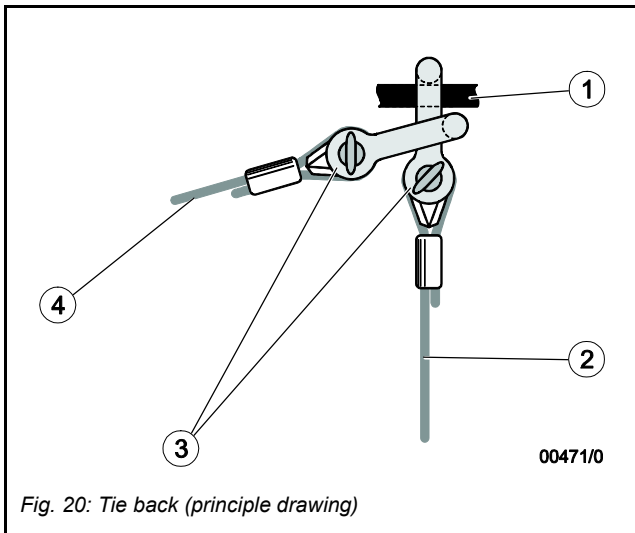

Fig. 20: Tie back (principle drawing)
- Secondary wire rope anchoring must be connected to a tie back (Fig. 20).